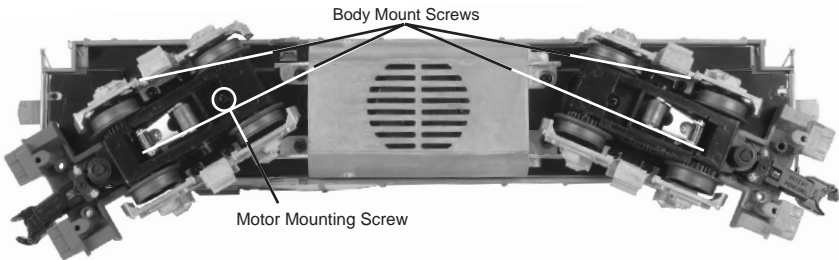

Figure 6. Body Removal Screw Locations
1. To access the gear box, remove the cab from the chassis by unscrewing the body mount screws as seen in Figure 6 and lifting the cab from the chassis.
2. Once the cab is removed, remove the trucks by unscrewing the black Phillips motor mount screw located on the underside of the drive trucks (see Fig. 6).